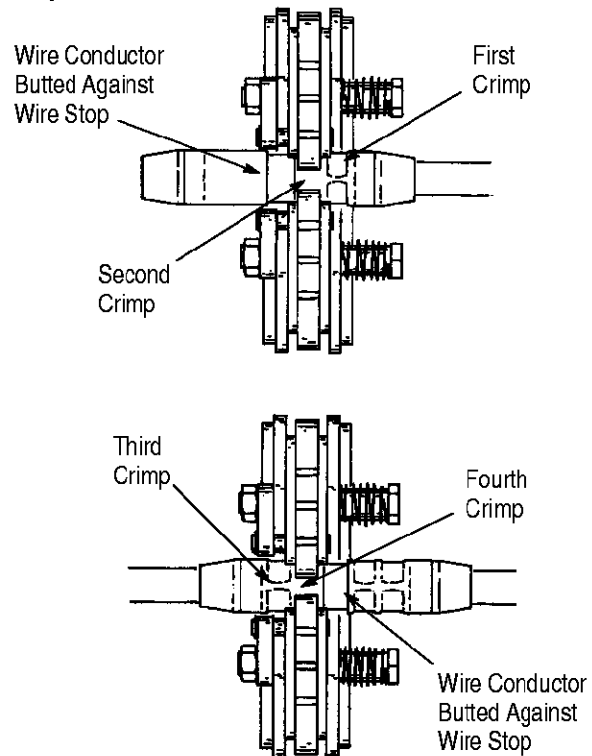

Figure 5
3.5. Dual Crimp for TERMINYL Butt Splices with Wire Size 1/0 AWG (Figure 5)